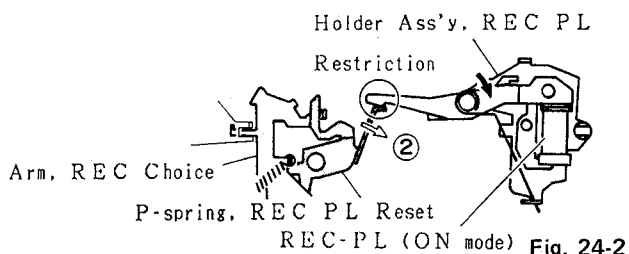

Fig. 24-2
- 1) The REC mode operation exerts the REC-PL to prevent the P-spring, REC-PL Reset from activating in the direction of arrow ②. (See Fig. 24-2)